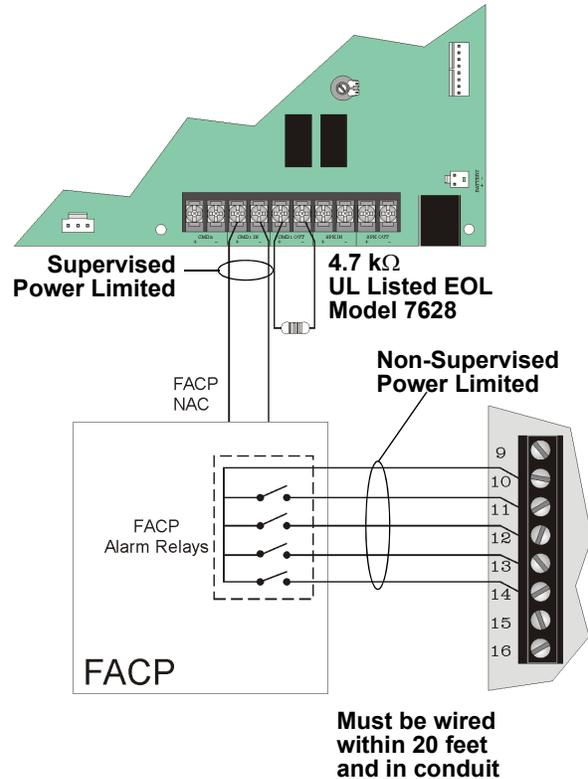

Figure 7: FACP Alarm Control Outputs
1. Connect an active low relay or contact from the FACP to the Alarm Selects on the SKE-ZN4. See Figure 7.